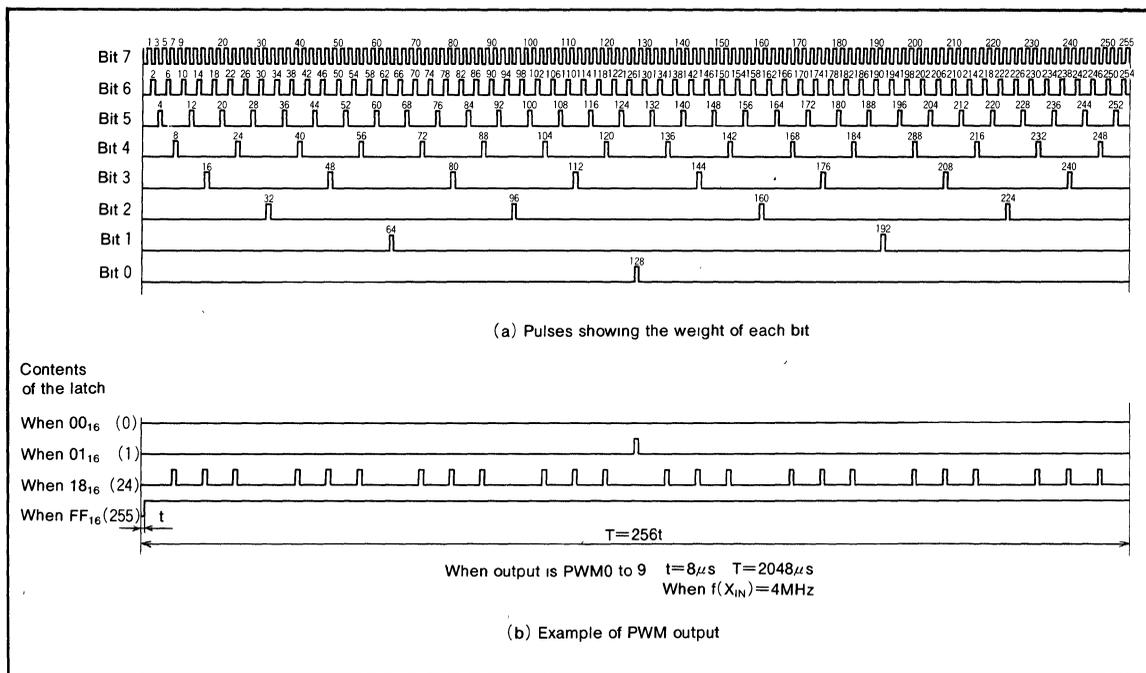

Fig. 17 PWM timing diagram
Figure 17 shows the timing diagram of PWM0 through 9. One cycle (T) is composed of 256 (2⁸) segments. There are eight different pulse types configured from bits 0 to 7 representing the significance of each bit. These are output within one cycle in the circuit internal section. Refer Figure 17 (a).
Eight different pulses can be output from the PWM. These can be selected by bits 0 through 7. Depending on the content of the 8-bit PWM latch, pulses from 7 to 0 is selected. The PWM output is the difference of the sum of each of these pulses. Several examples are shown in Figure 17 (b).